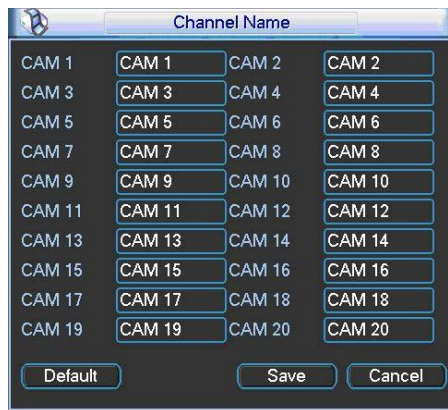

Figure 4-22
- PTZ activation: Here you can set PTZ movement when alarm occurs. Such as go to preset, tour & pattern when there is an alarm. Click “select” button, you can see an interface is shown as in Figure 4-22..